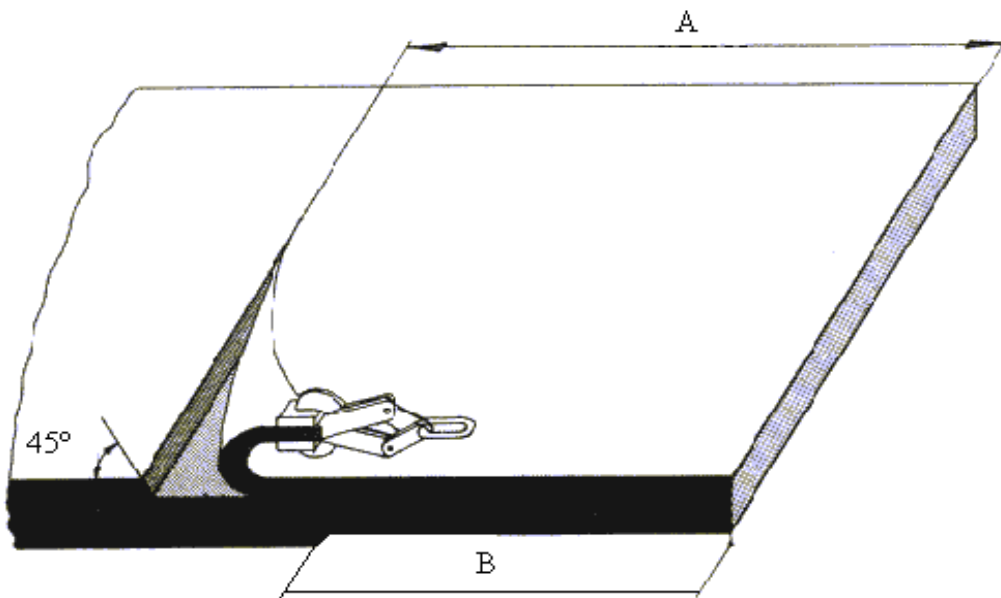

Figure 2: Removing the covers (including transversal cords)
- Remove the top cover (including transversal cords) over a length A (see table 1 and figure 2).
- Remove the bottom cover (if applicable, including transversal cords) over a length B (see table 1 and figure 2).